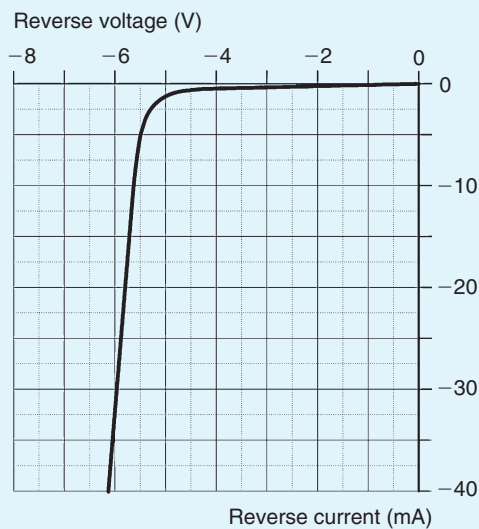

Figure 11.21
6. The graph shown in Fig. 11.21 was obtained during an experiment on a Zener diode. (a) Estimate the Zener voltage for the diode. (b) Determine the reverse voltage for a reverse current of  $-20\text{ mA}$ . (c) Determine the reverse current for a reverse voltage of  $-5.5\text{ V}$ . (d) Determine the power dissipated by the diode when the reverse voltage is  $-6\text{ V}$ .